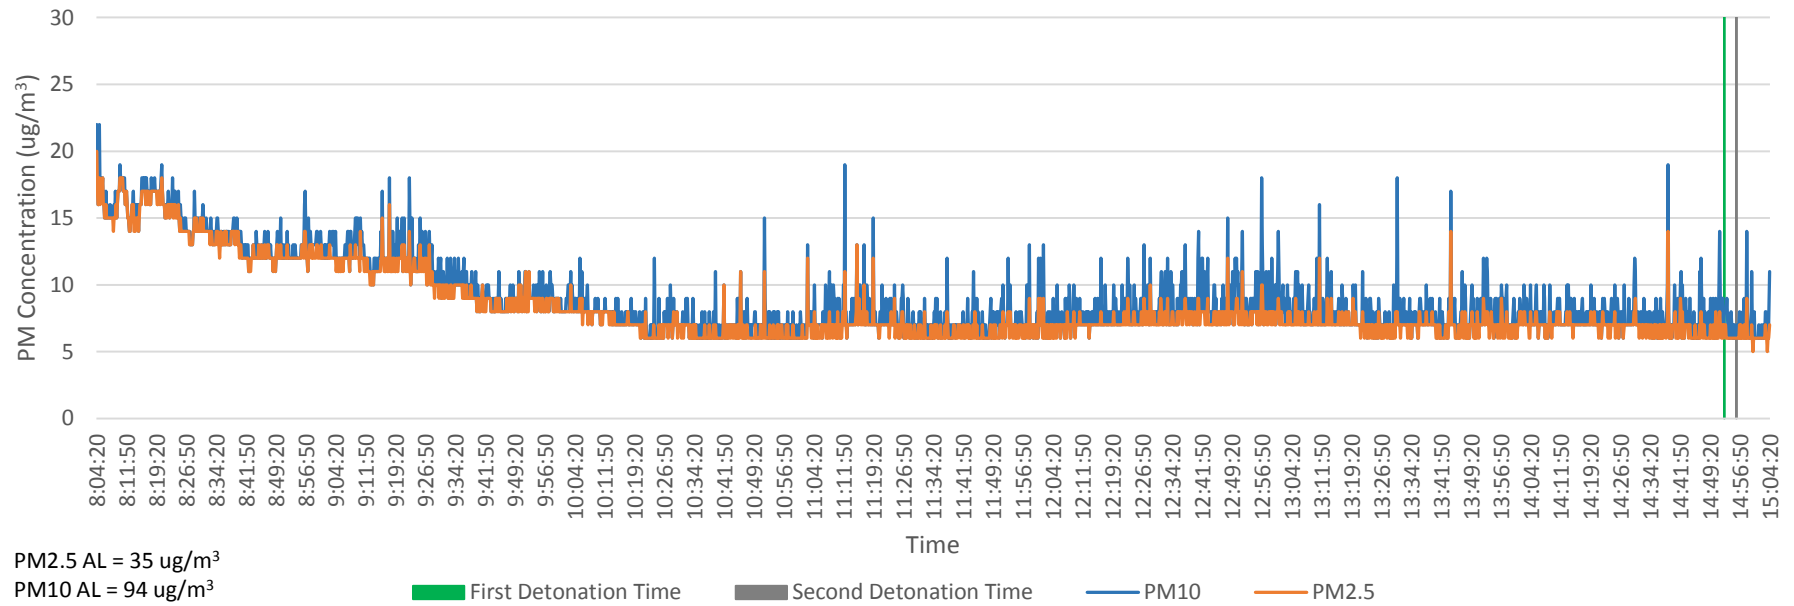

Figure 3-13. PM2.5 and PM10 on 8/14/17 at the Demolition Area
- Figure 3-13. PM2.5 and PM10 on 8/14/17 at the Demolition Area Monitoring Point